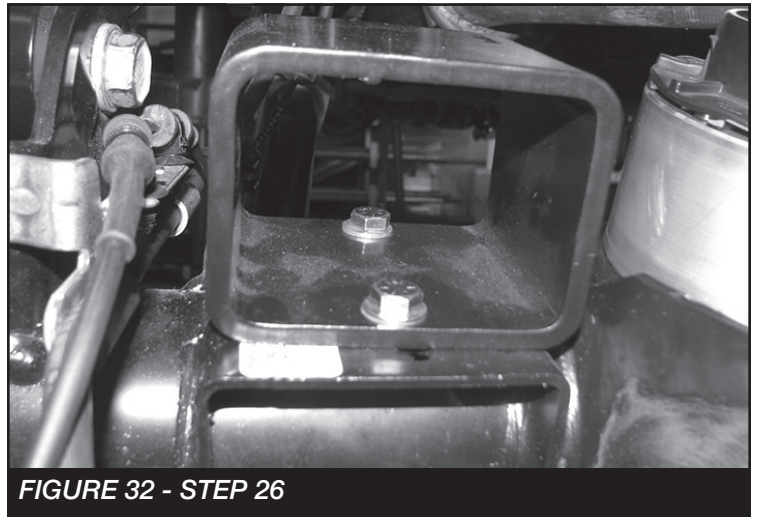

FIGURE 32 - STEP 26
26. Install the Fabtech Bumpstop spacer using the supplied 5/16 x 1" hardware for the front hole and the 5/16" x 3/4" hardware for the rear hole location. Torque to 29 ft-lbs. Repeat steps 25-26 on passenger side. **SEE FIGURE 32**